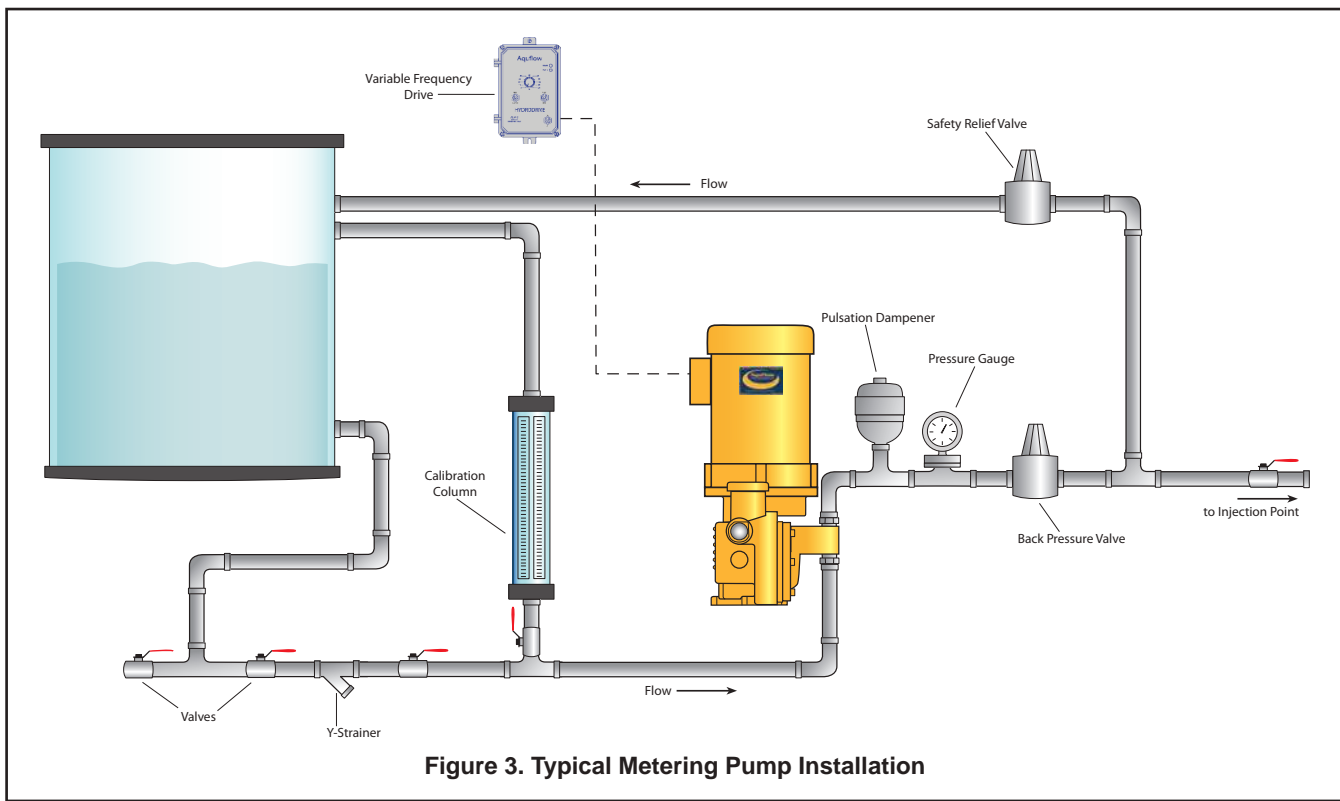

Figure 3. Typical Metering Pump Installation
6. Shut-off valves and unions installed in the suction and discharge pipelines will facilitate pump servicing. Please refer to Figure 3 for a typical installation.
The internal relief valve is designed only to protect the pump and drive components in the event the piping system is restricted or blocked while the pump is in operation. If there are other sources of pressure or hydraulically isolated sections of piping in the system, an external safety relief valve must be installed in the pump discharge line as close to the pump as possible, and BEFORE any isolation valve. The safety relief valve should be piped back to the suction tank or safety drain as shown in Figure 3.
2. Check to be certain that accessory components and fittings have been installed in the proper orientation and sequence as shown in Figure 3.
Pump calibration can be accomplished by measuring the decrease in liquid level pumped from a HydroChek™ calibration column installed in the suction line as shown in Figure 3 on page 9. Follow the calibration instructions provided by the cylinder manufacturer.